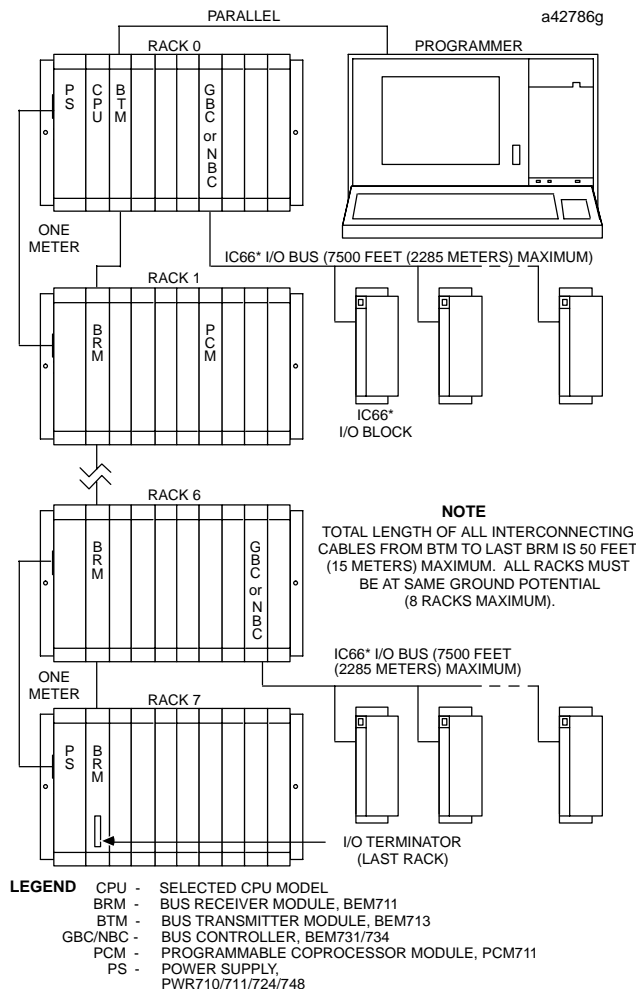

Figure 1. Typical Programmable Controller System Configuration
- Install the CPM 915 module in slot 1 of rack 0 (see Figure 1).